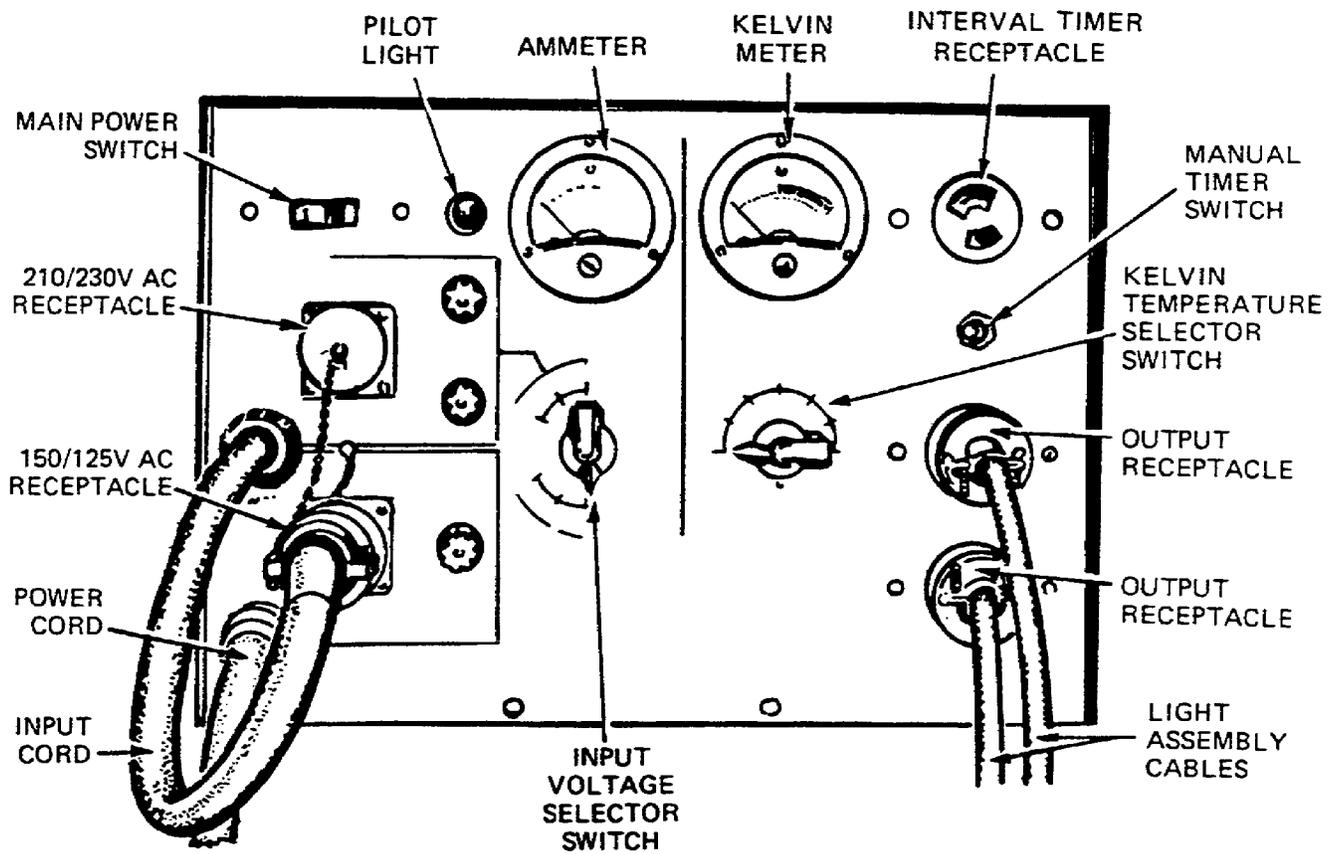

Figure 1-52. Converter Controls.
c. Converter Controls, Indicators and Connectors (fig 1-52).
a. Converter. Prepare the converter for operation as follows (fig 1-52):
(1) Check to be sure that the main power switch is set to OFF.
(2) Check to be sure that the power cord is connected to the power source and that input voltage-selector switch is set to the position that most likely matches the voltage of the power source.